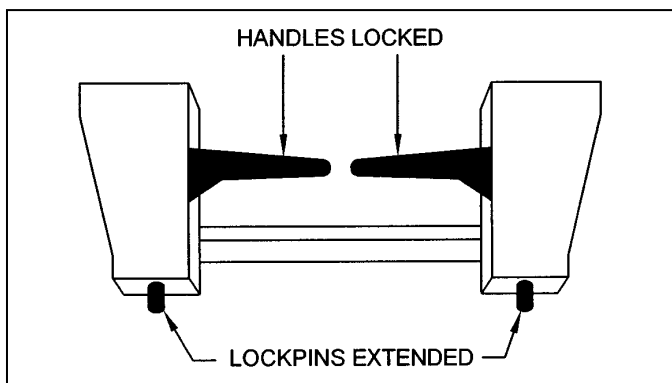

Figure 3. Coupler Handles - Locked
7. Engage the latching mechanism to secure implement to adapter. The lockpins must be completely extended and secured into the retaining slots provided on the implement. Figure 3.